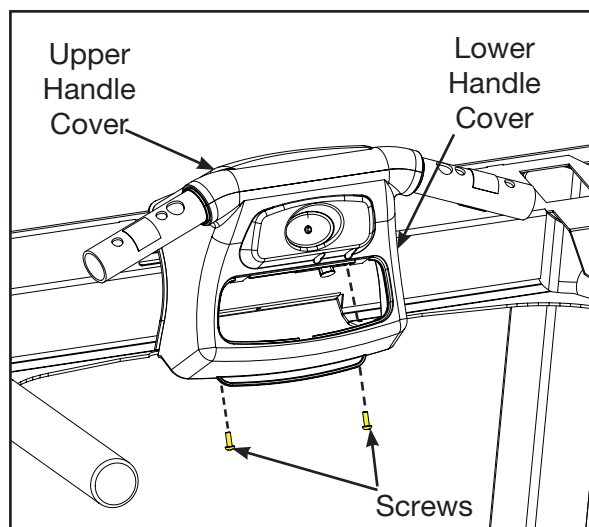

Figure 27
- A. Using a Philips head screwdriver remove the two screws securing the lower handle cover to the upper handle cover. See Figure 27.
- A. Using a Philips head screwdriver install the two screws securing the lower handle cover to the upper handle cover. See Figure 27.